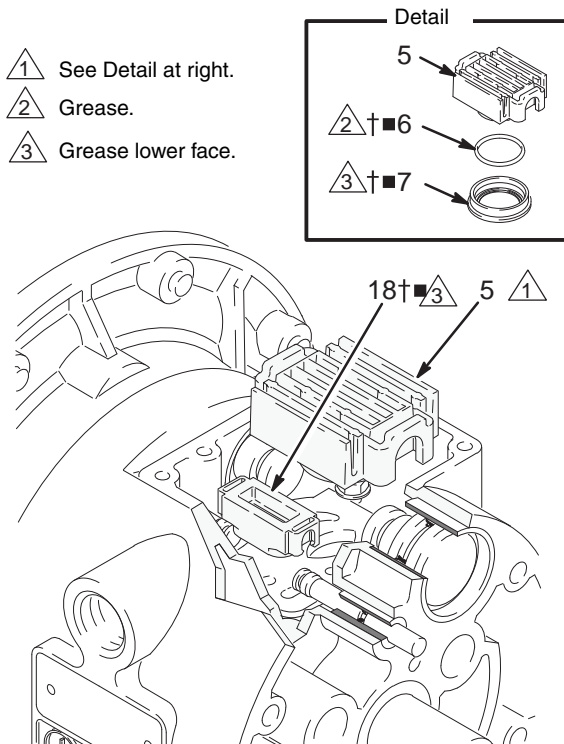

Fig. 9
3. Move the valve carriage (5) to the center position and pull it out of the cavity. Remove the valve block (7†■) and o-ring (6†■) from the carriage. Using a needle-nose pliers, pull the pilot block (18) straight up and out of the cavity. See Fig. 9.
7. Grease the lower face of the pilot block (18†■) and install so its tabs snap into the grooves on the ends of the pilot pins (16). See Fig. 9.
8. Grease the o-ring (6†■) and install it in the valve block (7†■). Push the block onto the valve carriage (5). Grease the lower face of the valve block. See Fig. 9.
9. Install the valve carriage (5) so its tabs slip into the grooves on the narrow end of the actuator pistons (11). See Fig. 9.